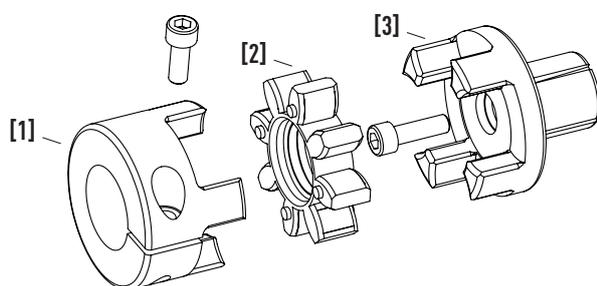

Fig. 6.83 Coupling assembly variant 1: clamping hub with one clamping screw
- Variant 1 with one clamping screw, see Fig. 6.83